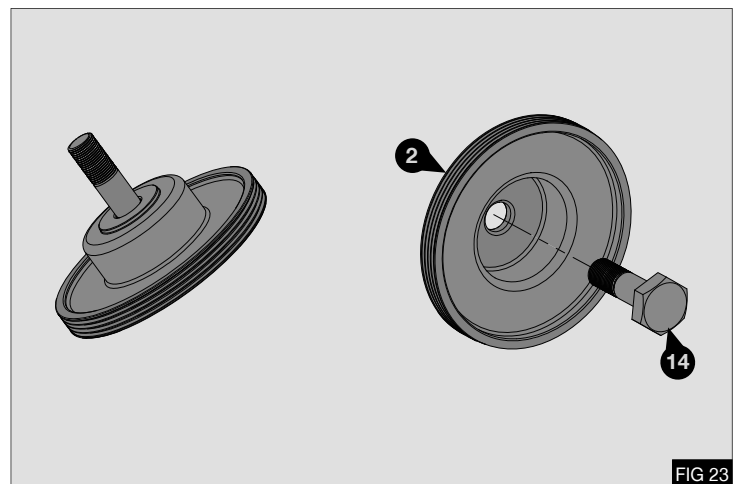

FIG 23
1. Assemble the supplied M20 x 66 bolt (14) into the additional drive pulley (2) - Fig 23